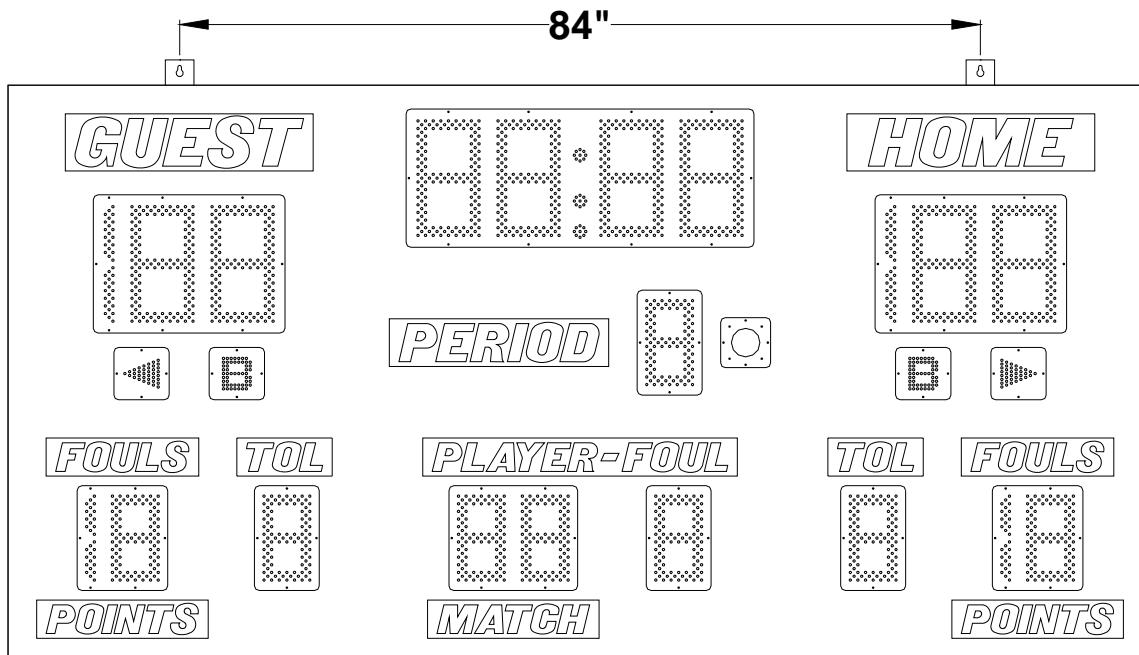

Figure 1 Model 2665 Mounting Points
3. Insert lag bolts or other suitable fasteners through the hanger brackets and fasten the scoreboard to the wall. Figure 1 shows the mounting point locations for model 2665.